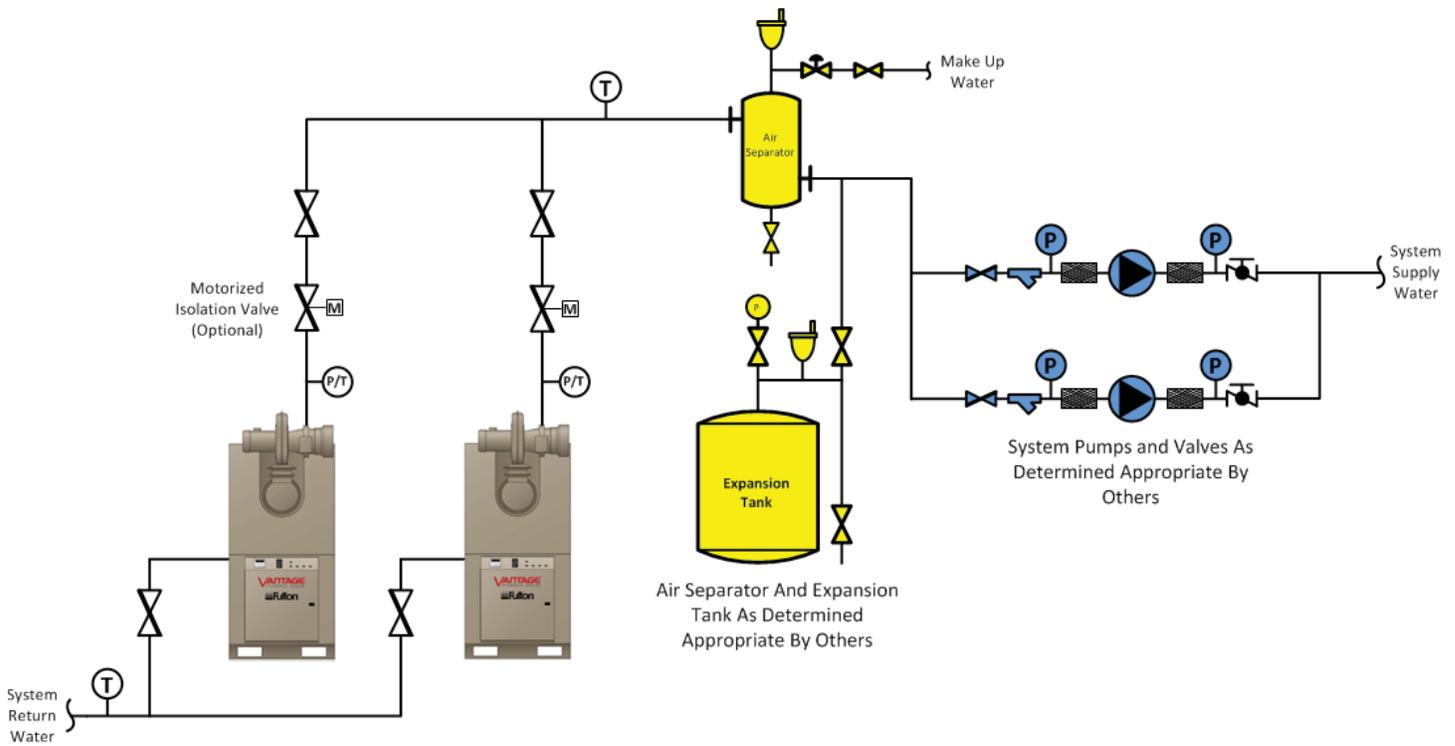

FIGURE 3 - SAMPLE PIPING LAYOUT
Adhere to the following for water piping installation (See Figure 3):
- **NOTE:** *The Fulton Vantage boiler does not require a primary/secondary flow piping system. Although primary/secondary is an acceptable configuration, the boiler does not have a minimum return water temperature requirement (when firing on natural gas or propane) and the heat exchanger will not be harmed by low flow or zero flow conditions. See Figure 3 for a sample piping layout.*